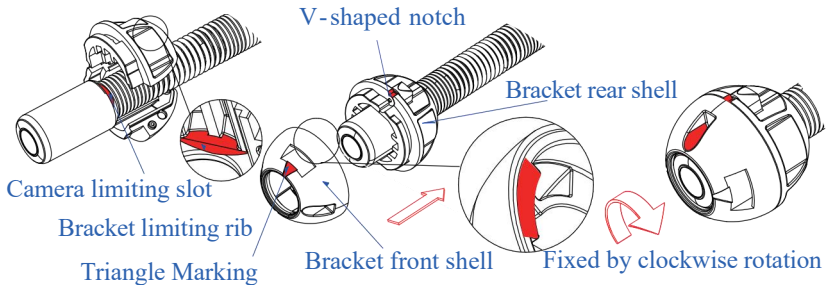

Figure 10. Install 46mm Support Guides
a. Install 46mm support guides. (Figure 10.)